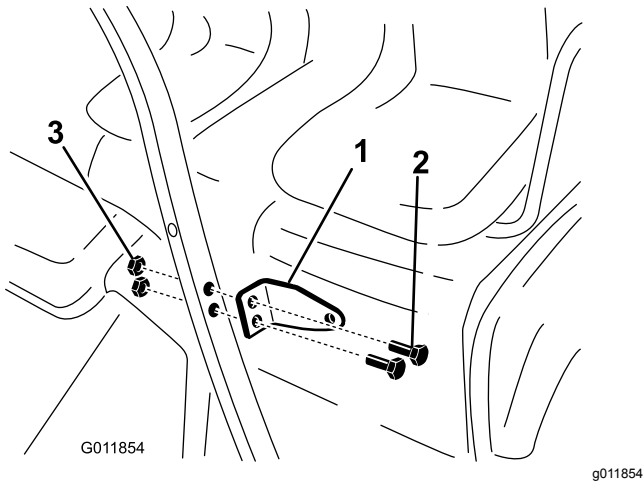

Figure 12
- Secure the mirror mount to the tube using 2 bolts (5/16 x 1-1/2 inches) and 2 flange nuts (5/16 inch) as shown in Figure 12.